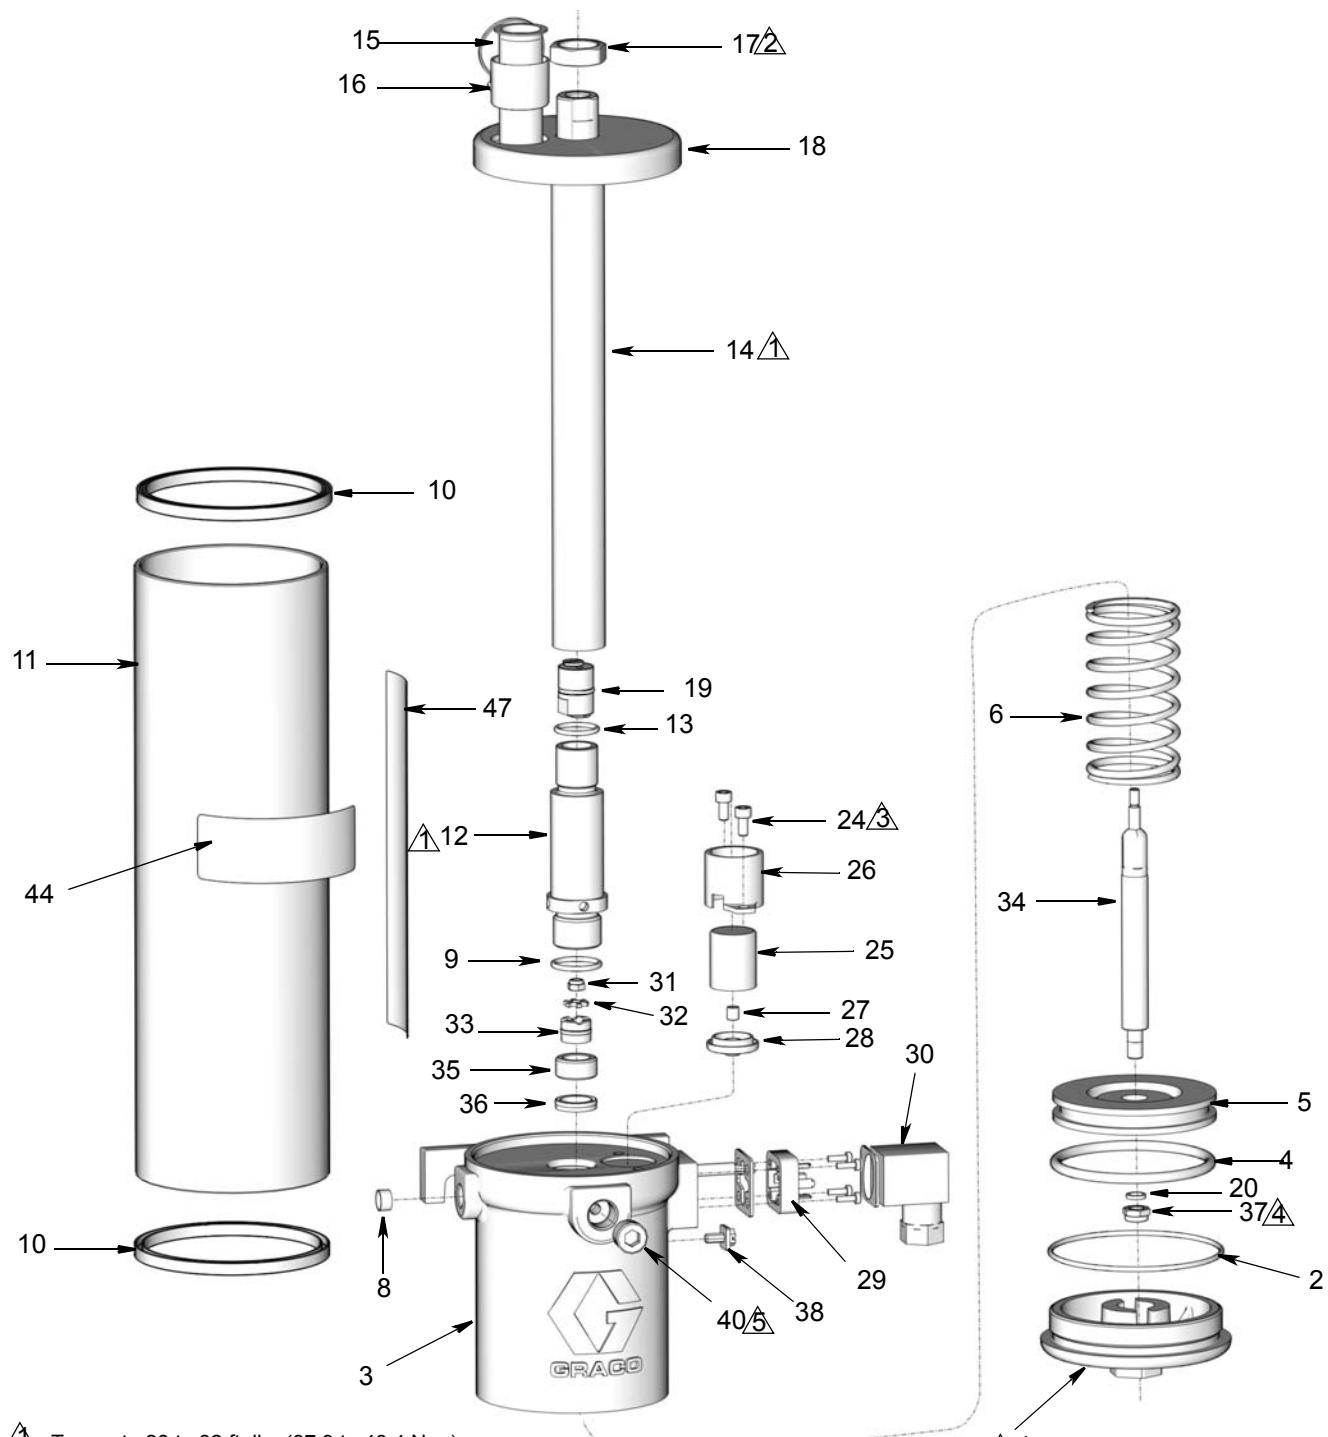

**FIG. 41**
21. Install cover (18) on reservoir (11). Torque nut (17) to 45 - 55 in. lbs. (5.1 to 6.2 N.m) (FIG. 41).